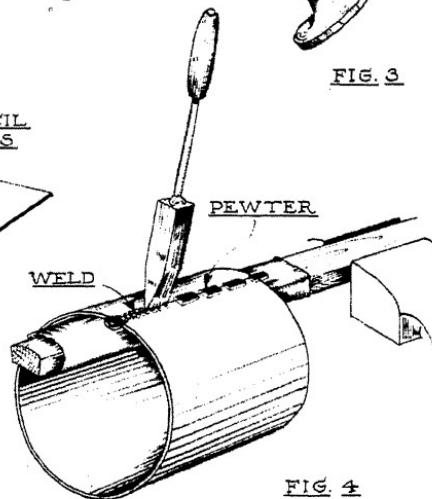

FIG. 4
6. Evaporate the water from the borax by holding the work over a clean blue flame (Fig. 4). When the water has evaporated, a thin white coating of borax is deposited on the work.